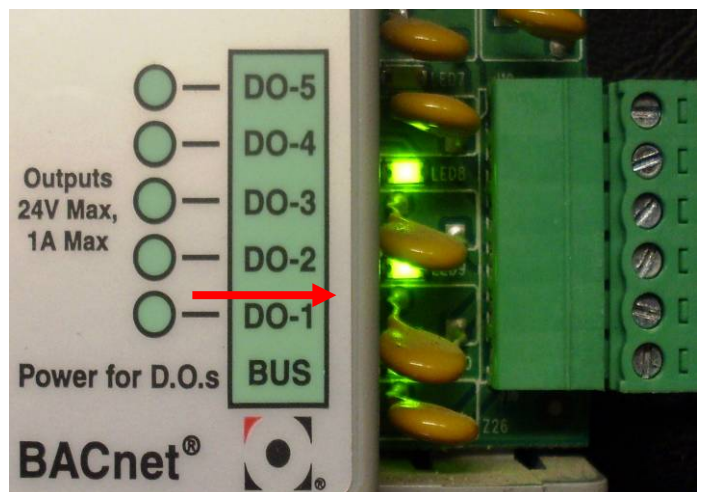

Figure 4 - Digital Output LEDs
The third and final bank of LEDs are located at the bottom right corner of the controller, as shown in Figure 4, and indicate whether each of the five (5) Binary or Digital Outputs (BO) are energized or not.
3. Keep 24VAC Power connected Figure 4.